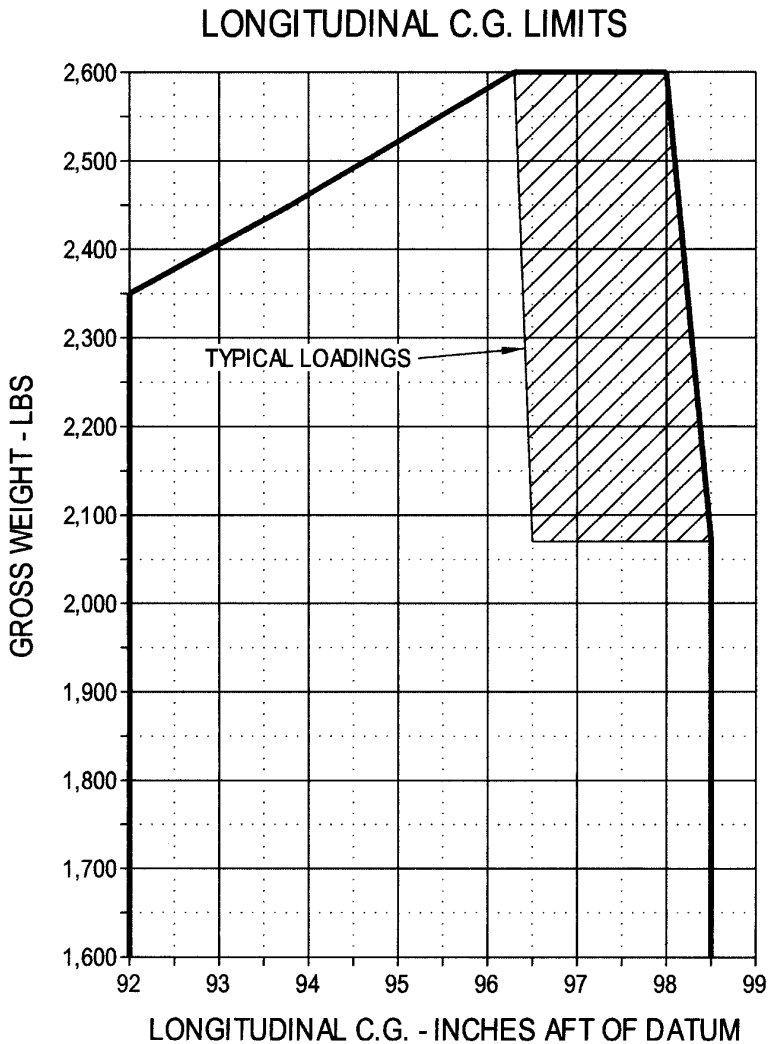

Figure 10-1-6. Gross Weight vs. Longitudinal C.G.
2. For weights lower than 2600 lb, reference Figure 10-1-6.